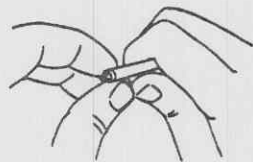

Figure 3-2. Testing the flexible shaft.
- (1) Visually inspect the entire surface of the flexible shaft and deflection section for dents, protrusions, holes, or other irregularities.
- (2) Pass the entire flexible shaft and deflection section between your thumb and forefinger as illustrated in figure 3-2. This procedure should be accomplished while the shaft is both straight and fully deflected to check for any metallic protrusions or other irregularities.